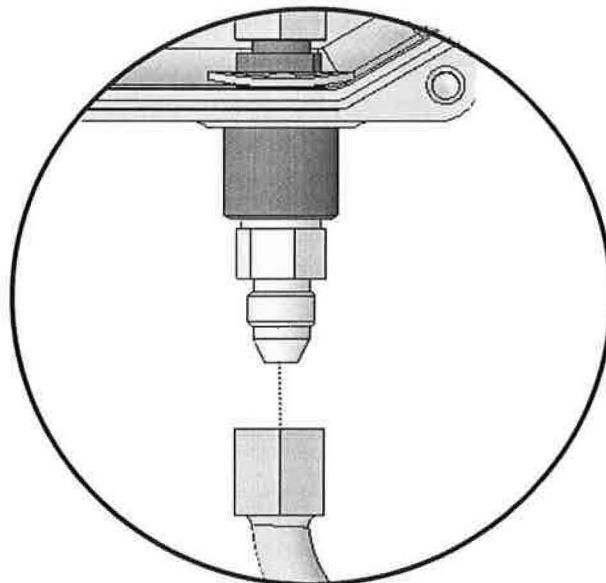

Figure 4-91. Fitting on Outside of UCH Control System
8. After ensuring there is no leakage, loosen the swivel fitting located at the bottom right side of the UCH Control System (see Figure 4-91). Allow the pressure to vent slowly. When the pressure is completely vented, disconnect the fitting and remove the cover.